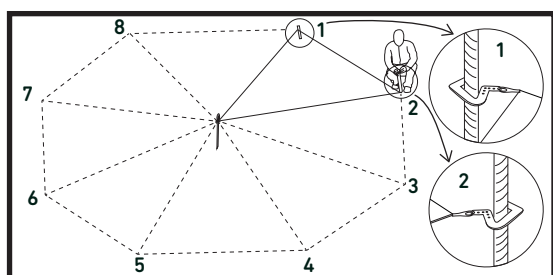

Fig. 5
7. Unfold the measuring tool to form a triangle (Fig. 5).